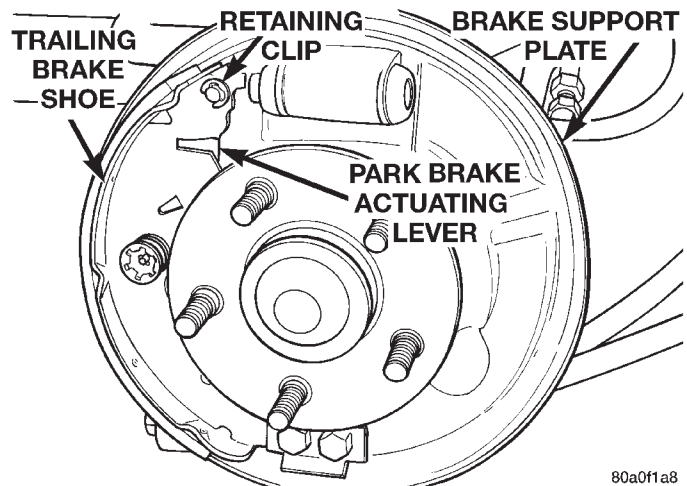

Fig. 71 Park Brake Actuating Lever Retaining Clip Installed
(5) Install the retaining clip attaching the park brake actuating lever to the trailing brake shoe (Fig. 71).